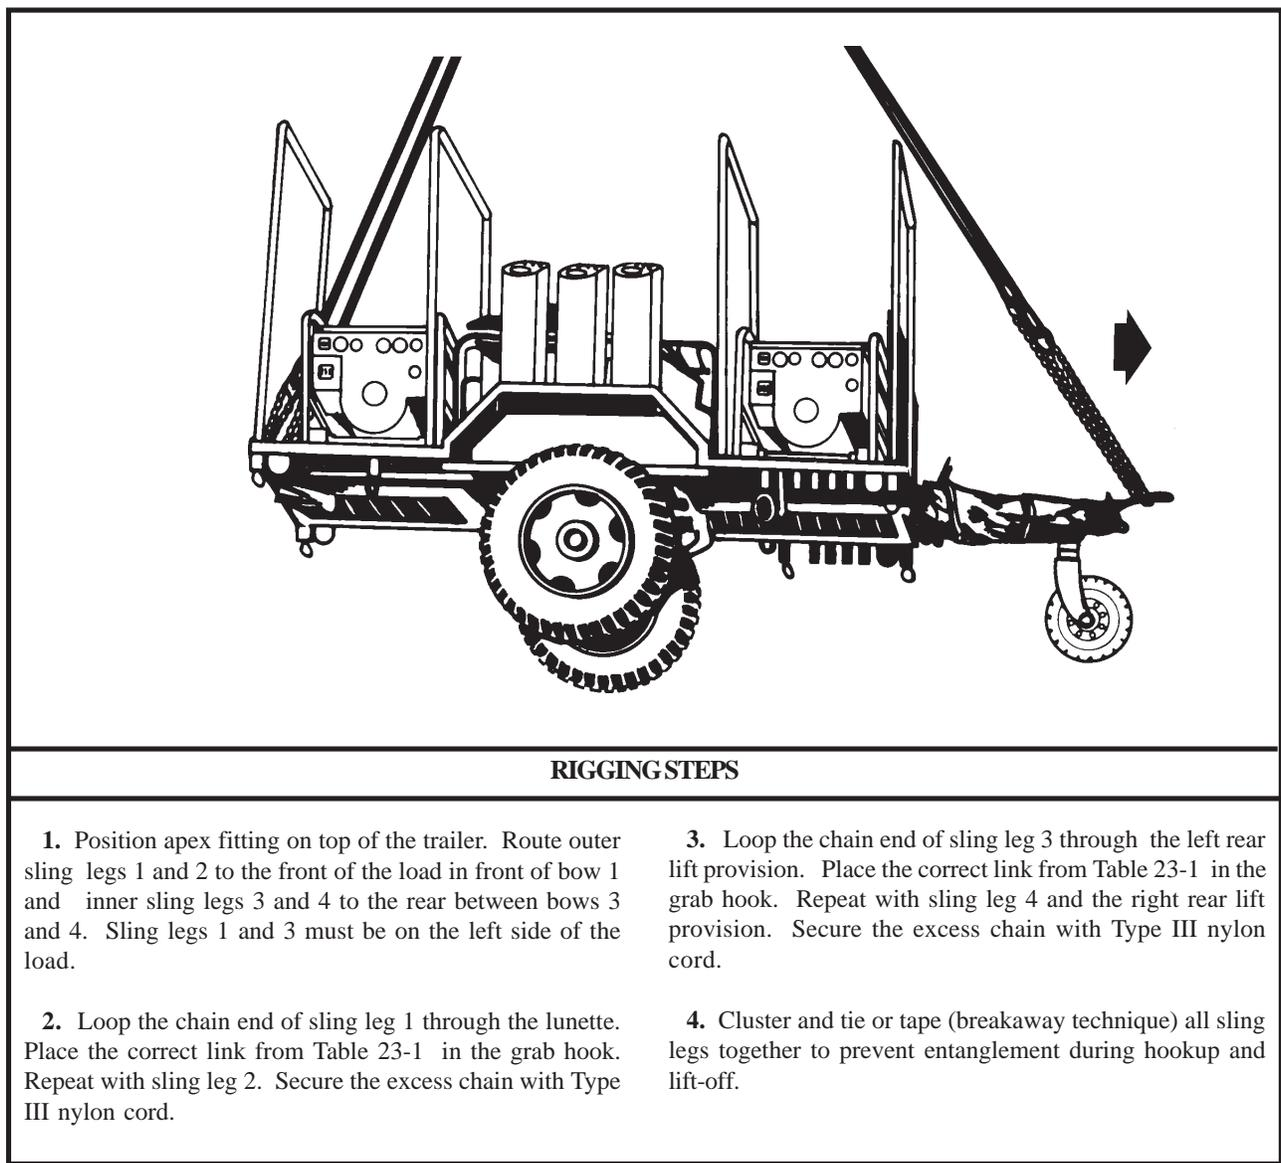

Figure 23-1. Trailer Mounted Generators
(2) **Rigging.** Rig the load according to the steps in Figure 23-1.